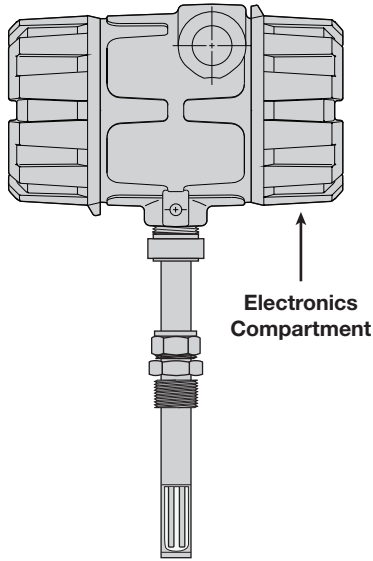

Figure 15
3. Remove cover—refer to Figure 15.